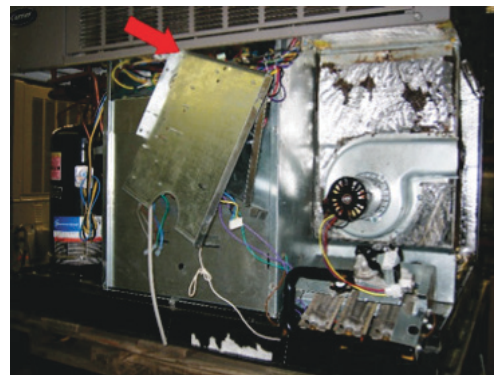

Fig. 32 – Securing Assembly to Screw Hole ^{A210079}
14. Gently pull Heat Shield / Control Panel bracket down and forward. Then rotate control panel bracket to the left. Secure assembly to screw hole on front panel with wire tie or similar fastener (Fig. 32). Use caution when moving control panel to avoid damage to controls or wire harness while moving assembly.